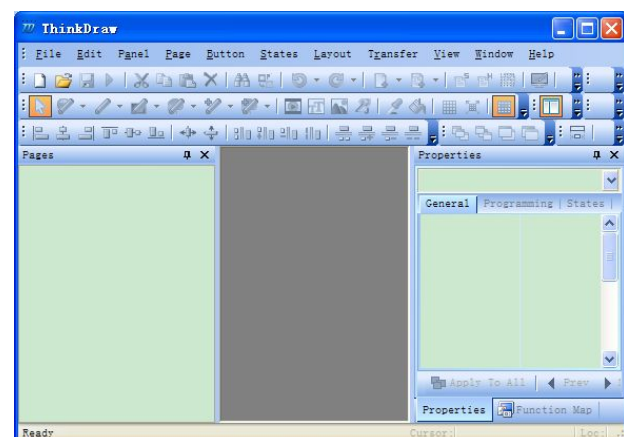

Figure 2-18 ThinkDraw editing software interface
2. Open the PC editor software ThinkDraw (the user interface updating module is integrated in the ThinkDraw editing software), as shown in figure 2-18: